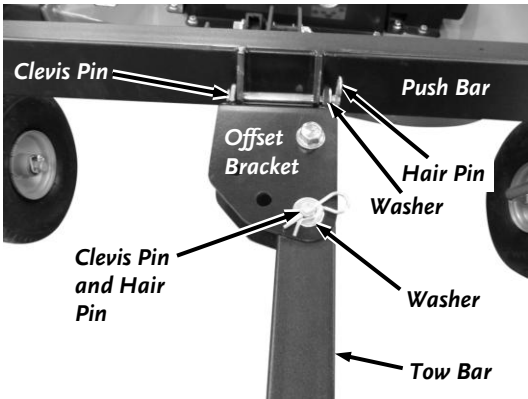

Figure 36
2. Turn the Tow Bar over to position the Offset Bracket for left side offset (**Figure 36**).